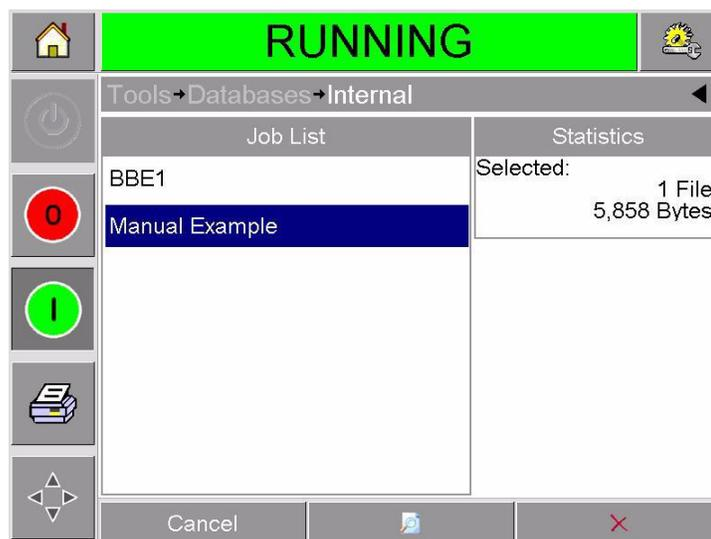

Figure 4-18: Database Data Window
- 2 Touch the Database button on the tools page to open the database page. This page contains a list of all the available print jobs along with details of the space available for the storage of new jobs (Figure 4-18).